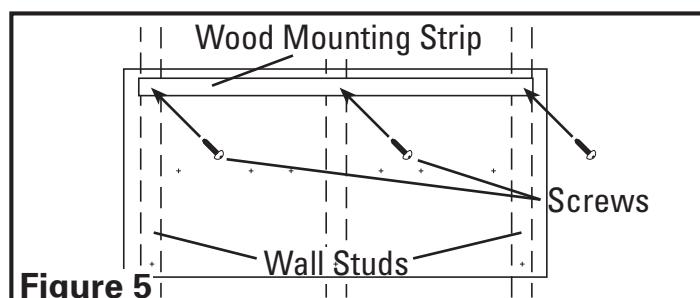

Figure 5
2. Using the template as a guide, place the wood strip that was removed in **Section 1 Step 2** on top of the template and confirm it is level. Secure in place using the provided 2" mounting screws making sure the screws are fastening into the wall studs (**Figure 5**).